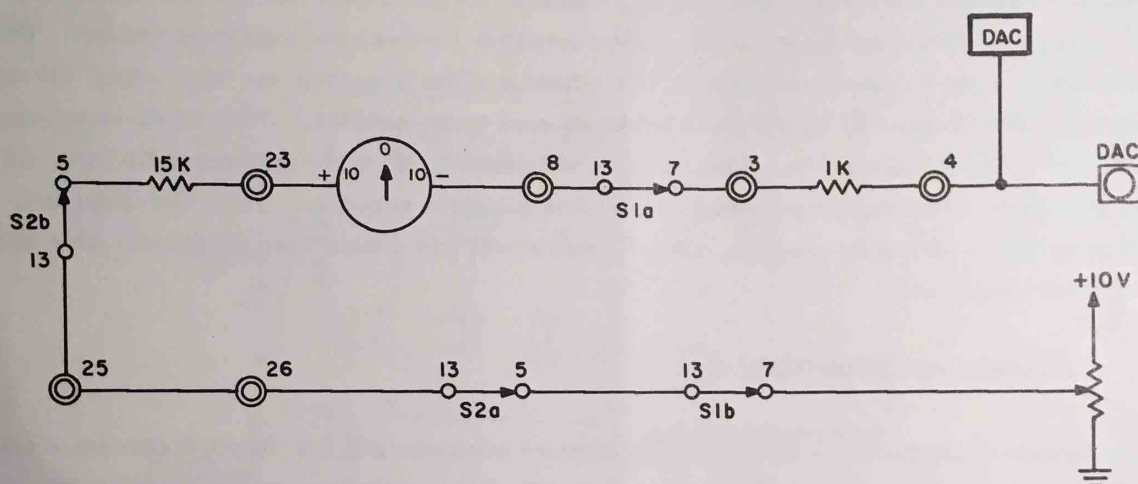

Figure 5.4. Handset Attenuator Null Voltage Circuit
5. The desired pot and the VM are now connected in the configuration shown in Figure 5.4.